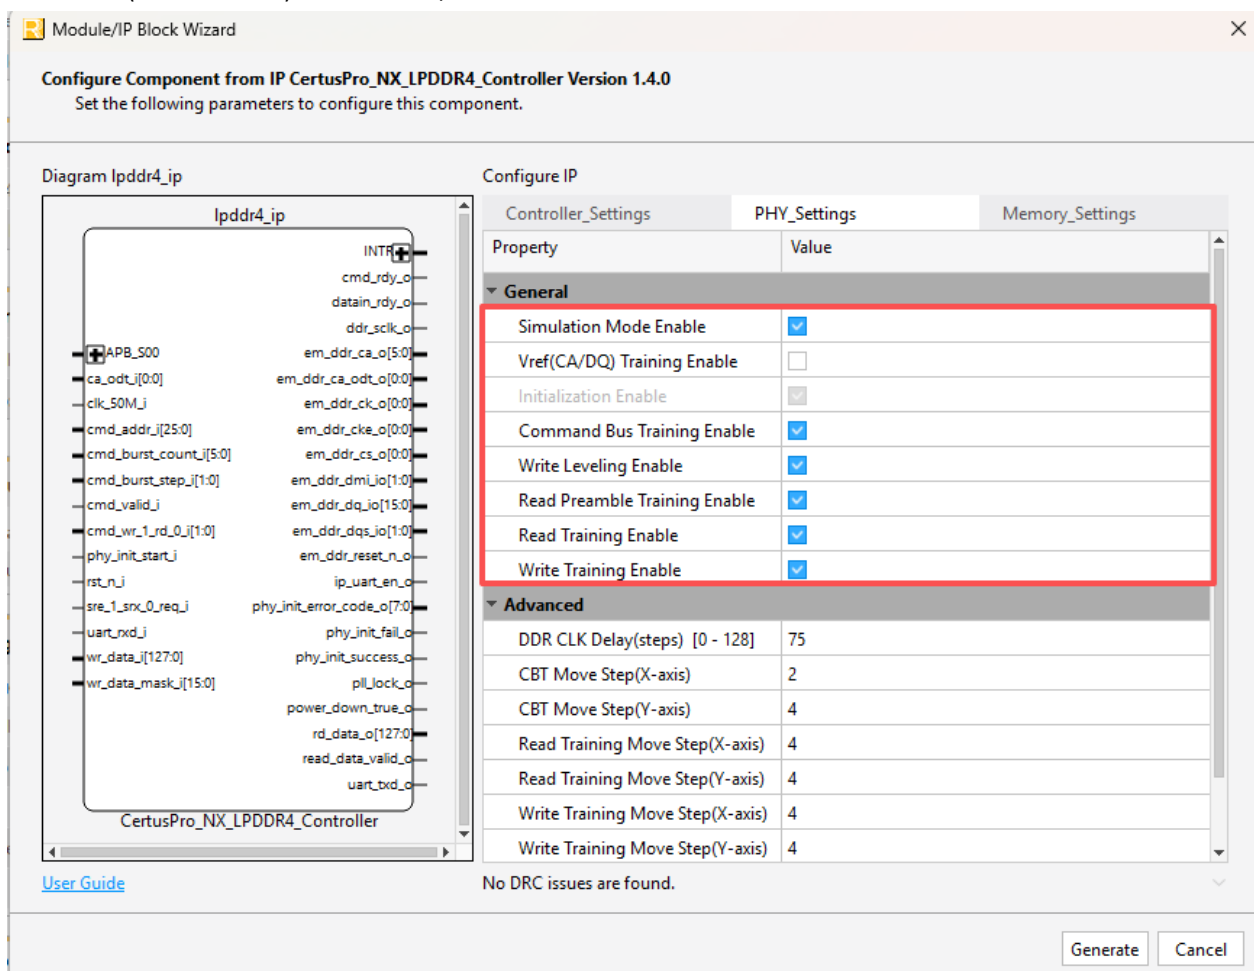

Figure 7.2 Normal Simulation Configuration
- 0) As Figure 7.2 showed generate IP core with **Simulation Mode Enable** box checked and **Vref(CA/DQ) Training Enable** box unchecked
This configuration will perform all the training tasks. User needs to select the '**Simulation Mode Enable**' and all the other training tasks as Figure 7.2. Under this configuration, training time consumption could exceed 1ms (absolute time) in Questasim/Modelsim.